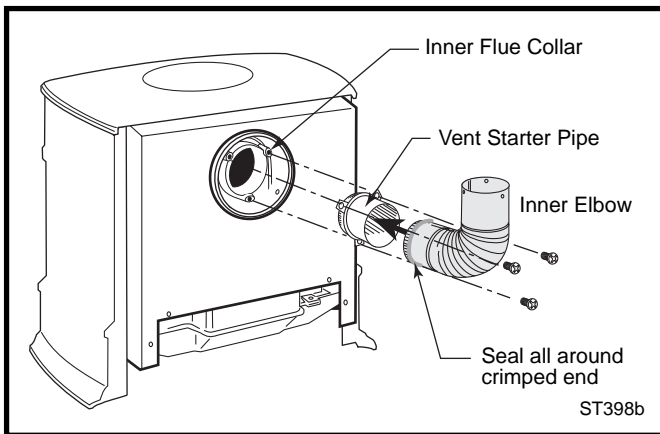

Fig. 22 Install inner starter pipe and inner elbow.
- Run a bead of sealant beneath the pipe bead and attach to the stove using three 1/4-20 x 3/8" phillips screws provided in the parts bag. (Fig. 22)
- Run a bead of sealant about 1/2" from end of the starter pipe and attach the assembly to the stove using three 1/4-20 x 3/8" Phillips screws provided in the parts bag. (Fig. 22)